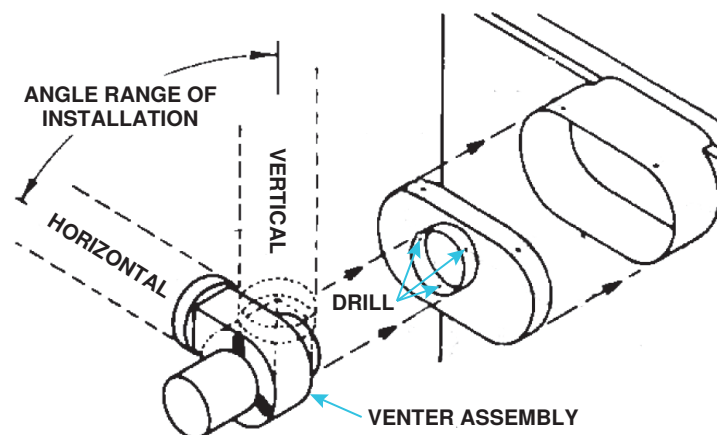

Figure 4. Venter Assembly Installation
3. Install venter assembly (see Figure 4):